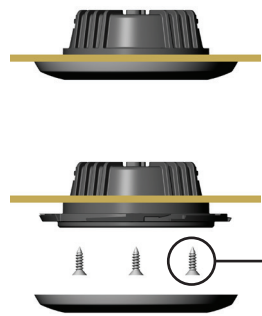

Figure 4
B. Screw-Mount Version (Sigma Small or Sigma Large): Twist and remove the trim ring and insert it into the cutout hole in the mounting surface. Fasten with three #4 flat head screws. (See Figure 4) Place the trim ring over the light making sure the tabs of the trim ring engage with the openings in the housing. Twist the trim ring on to secure it.